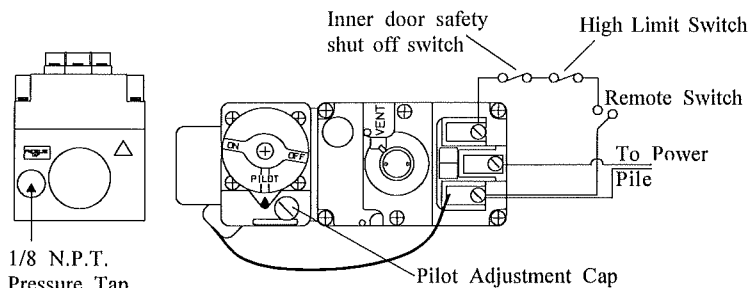

FIGURE 8. GAS CONTROL VALVE
The **Montigo 36SH** is equipped with a remote-operated valve, located behind the removable brass grille, to the right of the gas control valve (refer to figure 8.) The valve is pre-wired and completely self-contained to generate its own power. **DO NOT** connect any external power to it. **Note:** The switch location must not exceed 30' from fireplace.
To light pilot it is necessary that you remove outer and inner glass door (refer to sections on glass door removal). The gas control valve is located behind the brass trim in the centre of the fireplace (see Figure 8 below). Before lighting the pilot, make sure that the gas line is connected and the gas shut-off valve is turned to the ON position. To light the pilot we recommend the use of a long match or removal of logs "B" & "C":
- Remove Pilot Adjustment Cap. (see figure 8)
Have the fireplace installation inspected yearly, including a visual check of the vent system, the burner and the pilot flame. For your convenience a 1/8" pressure tap is supplied on the gas valve for a test gauge connection. See Figure 8. This appliance requires a minimum gas pressure of 7" W.C. for natural gas and 12" WC for propane. Always keep the fireplace area clear and free of combustible materials, as well as gasoline and other flammable vapours and liquids.
Pilot won't ignite	Disconnect remote wires and try to light pilot. If pilot now works, remote connections are faulty. Check wiring diagram figure 8 .
Main burner will not light	<ol style="list-style-type: none"> 1. Check wiring (see figure 8.) 2. Check wall switch for proper connection. 3. Check door safety switch located center of bottom door rail 4. Burner ignites, adjust activating pin bottom center of inner glass door. 5. Burner does not ignite, check electrical contacts of the door safety switch